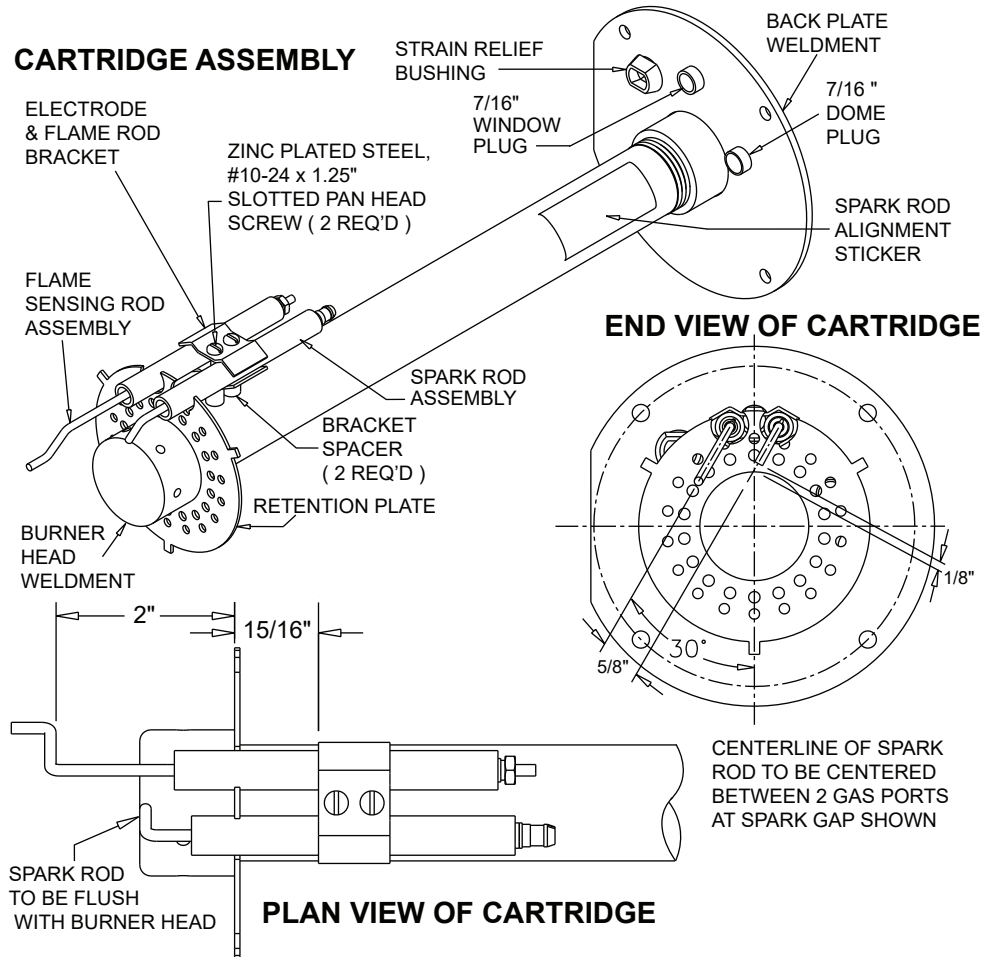

Figure 7A -
- The flame sensing rod must be positioned as shown in Figures 7A and 7B so that the Electronic Control will detect a proper flame.
b. Between Electronic Control high voltage terminal and Spark Electrode Wire (insert head of #8 x 3/4" or longer round head screw into snap terminal inside right angle rubber boot). No spark, broken wire, cracked insulator, or "spark gap" too wide, see Figures 7A and 7B.
c. Between spark electrode tip and top of ground rod, see Figures 7A and 7B. If spark is not visible and/or can not be heard, remove nozzle assembly (see Section IX Electrodes) and ground it solidly to burner metal. No spark, cracked insulator and spark traveling to ground along crack.
1. Check sense electrode position per Figure 7A or 7B.